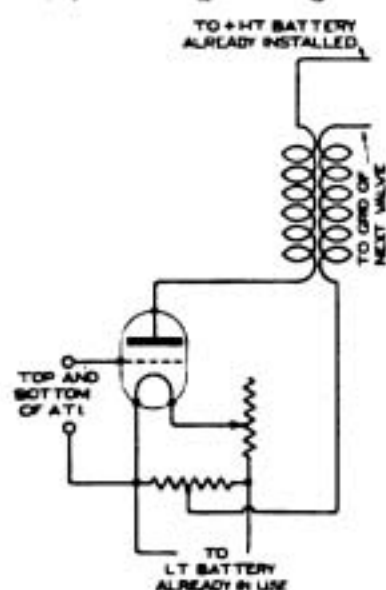

Fig. 1.
The slide rule is shown in Fig. 1, where it will be seen that there are four index arrows, two of which are red and two black, on the rule itself, the black indexes coinciding with the capacity
G.R.H. (Elland) asks (1) If having intervalve transformers near a valve will affect its working. (2) How to add a single valve H.F. amplifying unit to his set. (3) Suggestions for improving a set sketched. (4) If he should be able to get PCGG.
(1) An effect of this nature can be obtained but you are unlikely to get it unless your transformers are exceptionally leaky, and exceptionally near the valves.
(2) See diagram Fig. 1.